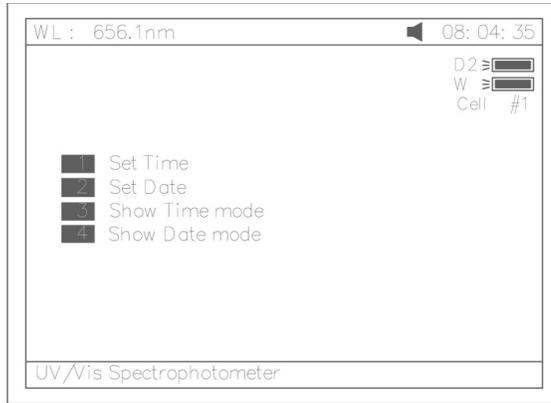

Fig 87
4. screen (Fig 87).
5. screen (Fig 87).